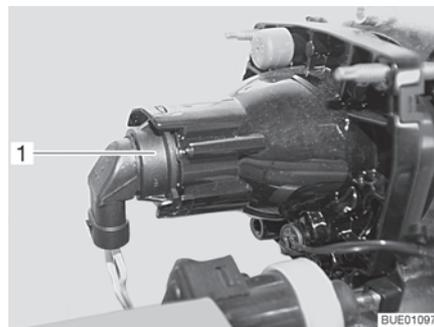

Fig. 216 Low beam/main beam/parking light
- Put your hand behind the lamp holder (Fig. 216,1).